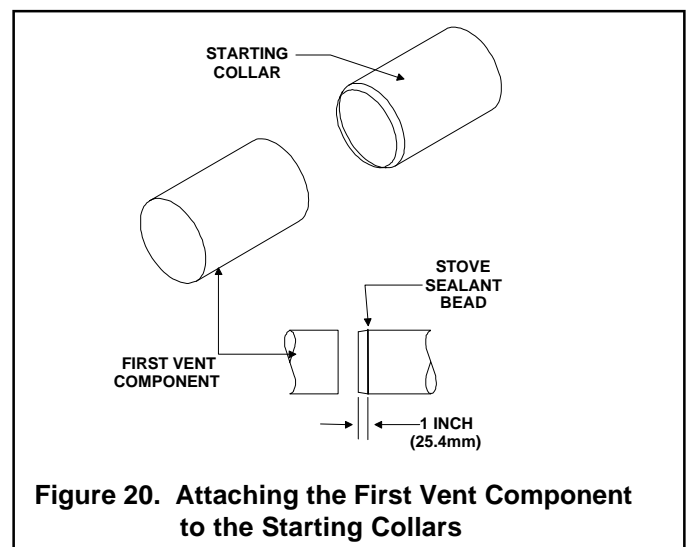

Figure 20. Attaching the First Vent Component to the Starting Collars
- Apply a 3/8 inch (9.5mm) bead of stove cement around the 5 inch (127mm) fireplace starting collar (see Figure 20).